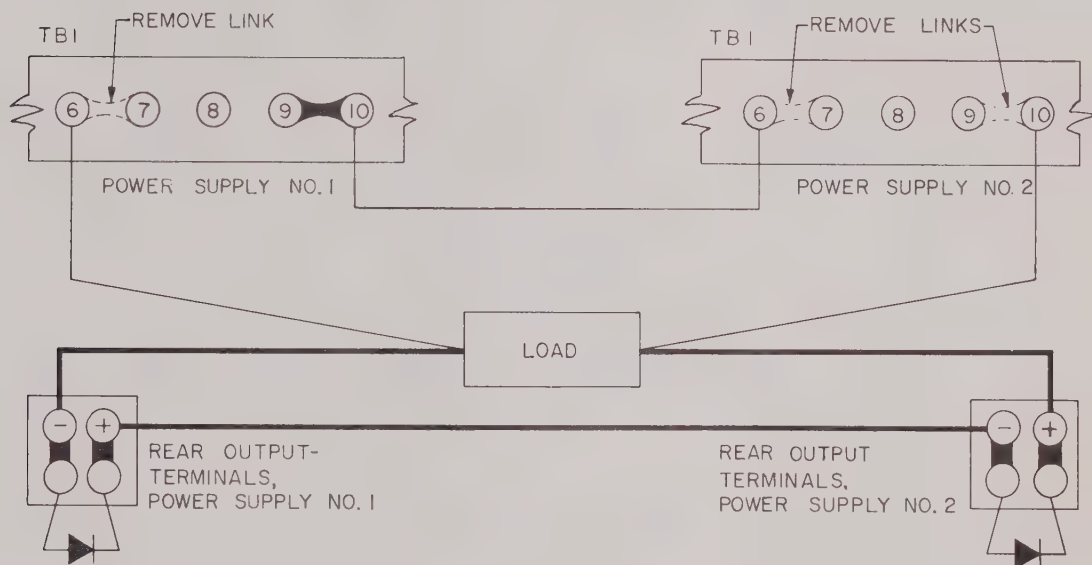

FIG. 3-10 CONNECTION FOR IN-SERIES OPERATION
- a) Connect load to power supplies as shown in Fig. 3-10. Keep voltage drops in the load wires as low as possible by selecting the gauge as heavy as practicable.